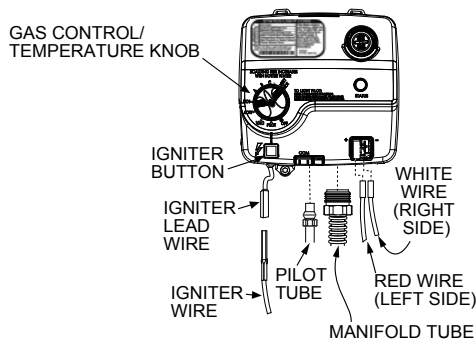
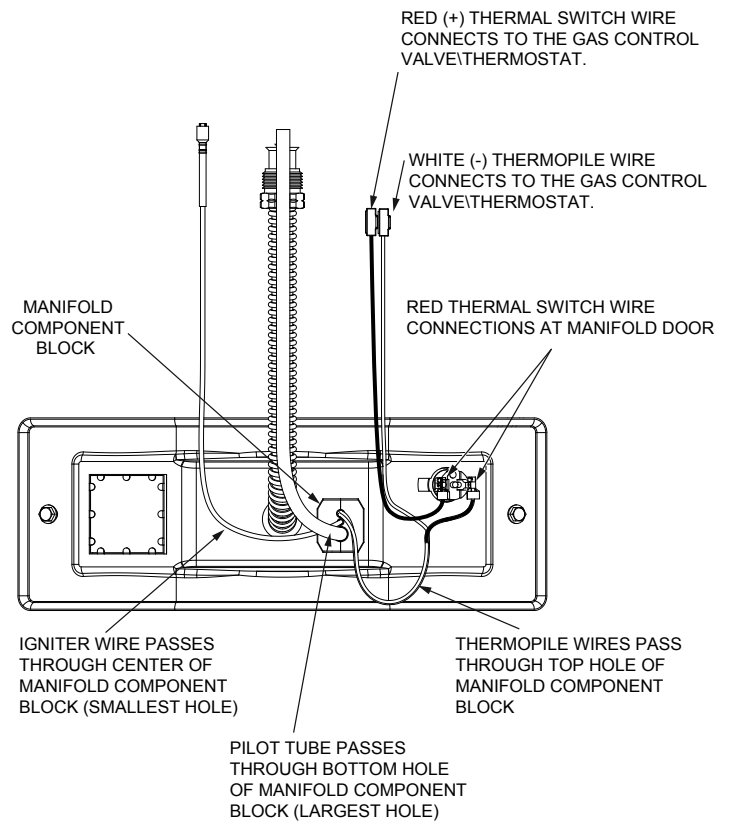

FIGURE 28.
FIGURE 33.
1. Turn the gas control/temperature knob to the "OFF" position (Figure 28).
5. Disconnect the following from the gas control valve/thermostat: pilot tube (7/16" wrench), igniter wire (from the igniter lead wire), and manifold tube (3/4" wrench). See Figure 28.
6. Disconnect the white and red wires from the gas control valve/thermostat (Figure 28). Use needle nose pliers to grip the connector(s). **IMPORTANT:** Grip the connector carefully to prevent damage. Do not grip or pull the wires themselves.
9. Reinstall the manifold component block in the manifold door. Ensure that the pilot tube and wires are positioned as shown in Figure 33.
6. Reconnect the manifold tube (3/4" wrench) and pilot tube (7/16" wrench) to the gas control valve/thermostat (Figure 28). Do not cross-thread or apply any thread sealant to the fittings.
7. Connect the white and red wires to the gas control valve/thermostat as shown in Figure 28. Also, ensure that the red thermal switch wires are connected to the thermal switch on the manifold door (Figure 33).
8. Reconnect the igniter wire (Figure 28).
4. Disconnect the igniter wire from the igniter lead wire. Use needle nose pliers to disconnect the red (+) and white (-) thermopile wires. Disconnect the pilot tube (7/16" wrench) and manifold tube (3/4" wrench) at the gas control valve/thermostat (Figure 28).